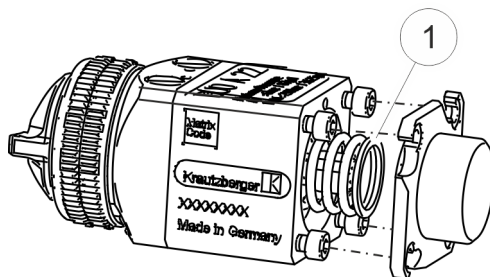

Fig. 16: Removing the pressure spring
- 5.** ➤ Remove the pressure spring ( Fig. 16/1).